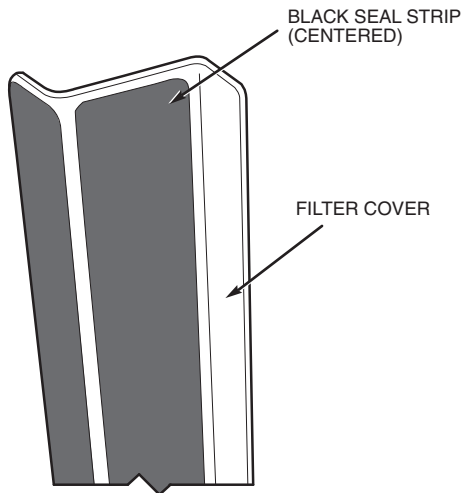

Fig. 32 — Attaching Seal Strip to Filter Cover
13. Attach black seal strip (provided) to filter cover. Seal strip should be applied centered over the holes of the one flange, making sure to fully cover holes and center over the other large flange. See Fig. 32.